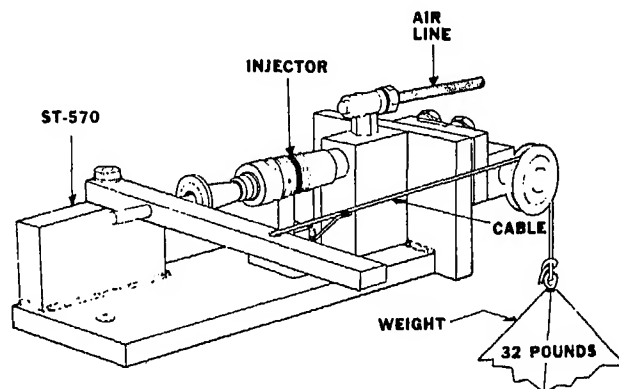

Fig. 6-1-39. Testing injector plunger-to-cup seating — ST-570
3. Place injector in ST-570 with cup seated in the counterbore below the air valve. Fig. 6-1-39.
5. Seat handle against injector plunger link and let the weight control the force against plunger. Do not apply any additional force to handle during test. Fig. 6-1-39.
6. Turn on air pressure (press air valve button). Injector is acceptable if the duration of time before the first air bubble appears is more than ten (10) seconds, and/or time between the observed air bubbles is not less than five (5) seconds.